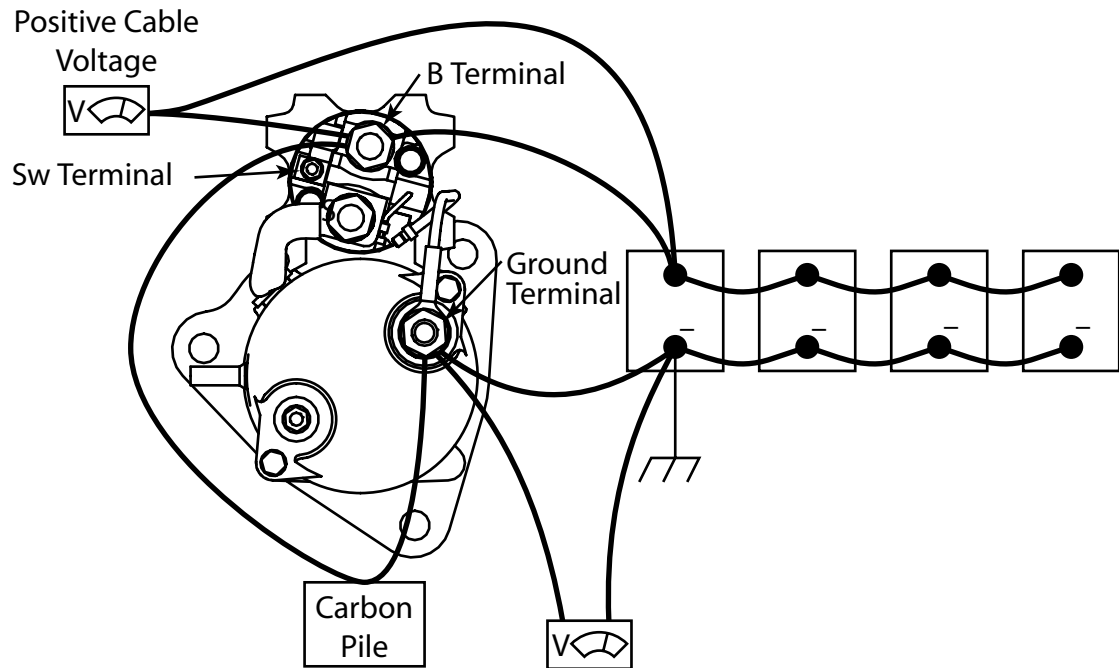

Figure 11: Step 3B – Main Cable Loss Identification
- 1) As shown in Figure 11:
- 2) Using the wiring configuration in Figure 11, obtain: